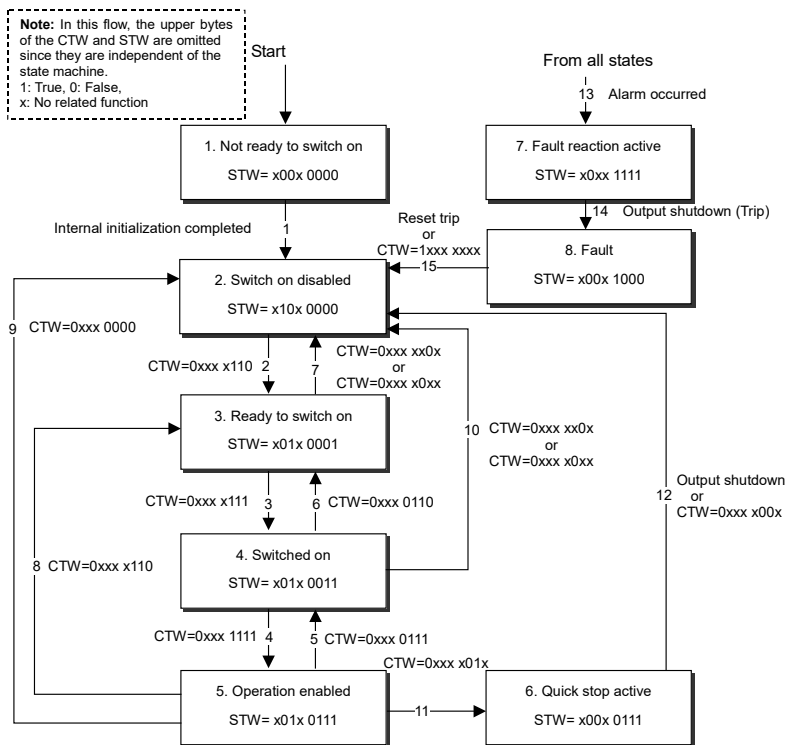

Figure 11.1 State Machine
bits 0 to 3 : Control the state machine for state transition. See Figure 11.1.
- bits 0 to 2, 5, 6 : Status display of the state machine. See Figure 11.1.
Operating the state machine (the state transition flow in Figure 11.1) stipulated in the DSP 402 drives the inverter. Controlword (CTW in the figure) causes the state transition of the state machine, and Statusword (STW in the figure) monitors the state.
Transition to State 5 "Operation enabled" (see Figure 11.1) sets the inverter in run state.